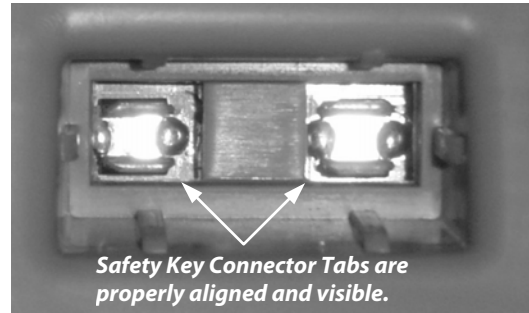

Figure 1
2. Check the connection of the Safety Key and the Connectors. The four (4) ends of the Connectors should be clearly visible against the Mower housing (**Figure 1**).